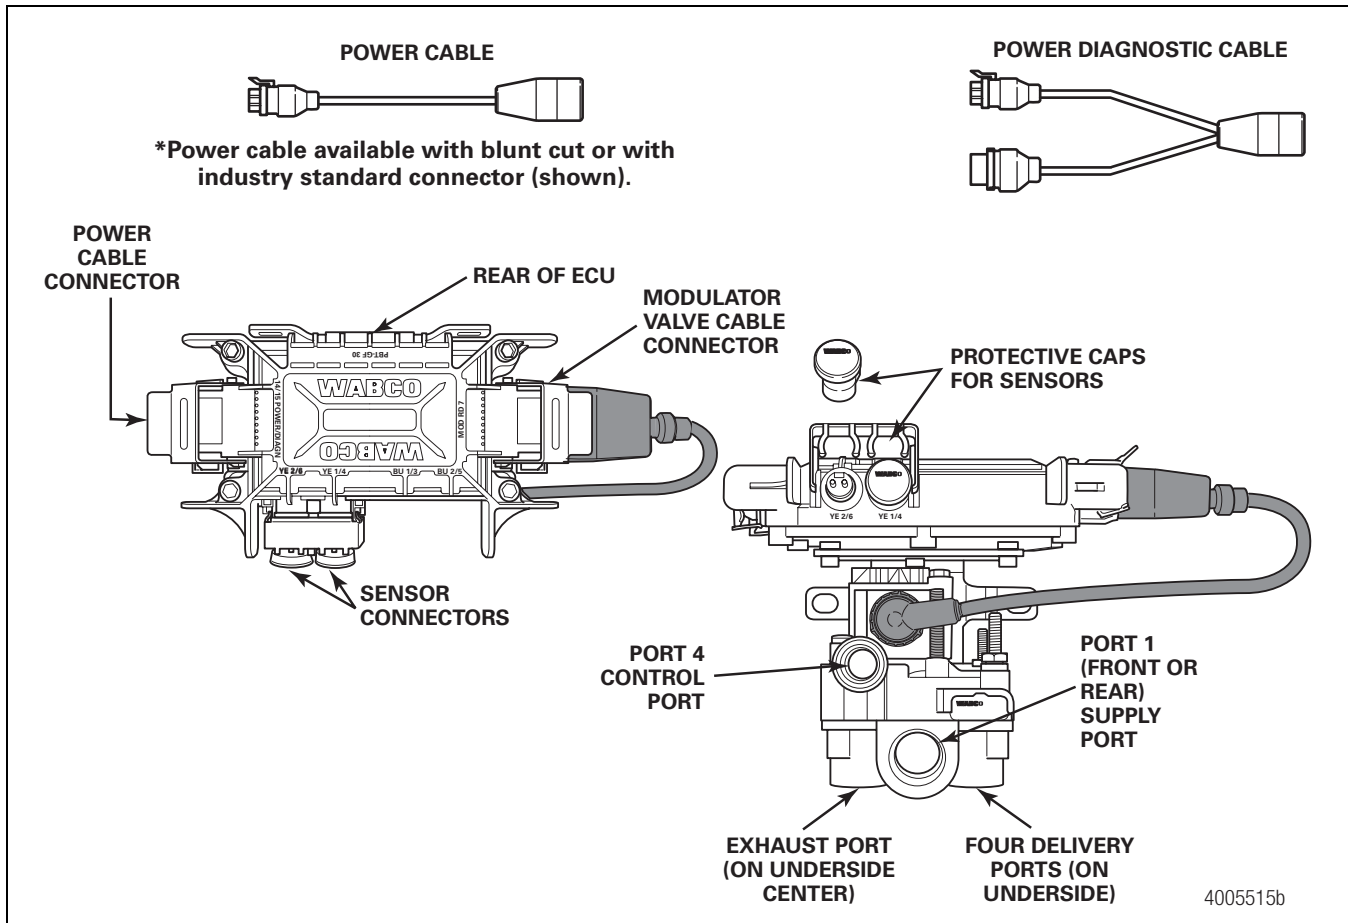

Figure 1
3. Study the ECU/single modulator valve assembly. Note the location of the various ports and electrical connections on the ECU. Figure 1.